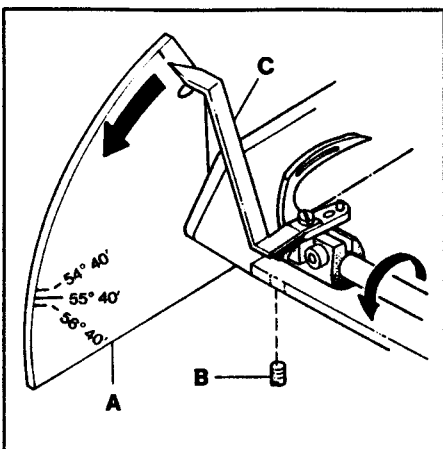

FIG. 6
Attach looper travel gauge plate (A, Fig. 6) to the rear of the cylinder arm. Set the bottom of the gauge so it is approximately horizontal and lock lightly in place with screw (B) directly underneath. Attach looper travel gauge pointer (C) to the looper using the left needle guard screw hole. Turn the handwheel in operating direction until the looper is positioned to the far right. Set pointer (C) at zero degrees by rotating gauge plate (A) and lock in place. Continue turning the handwheel until the pointer stops. If the looper travel is correct the pointer should indicate 55° 40'.